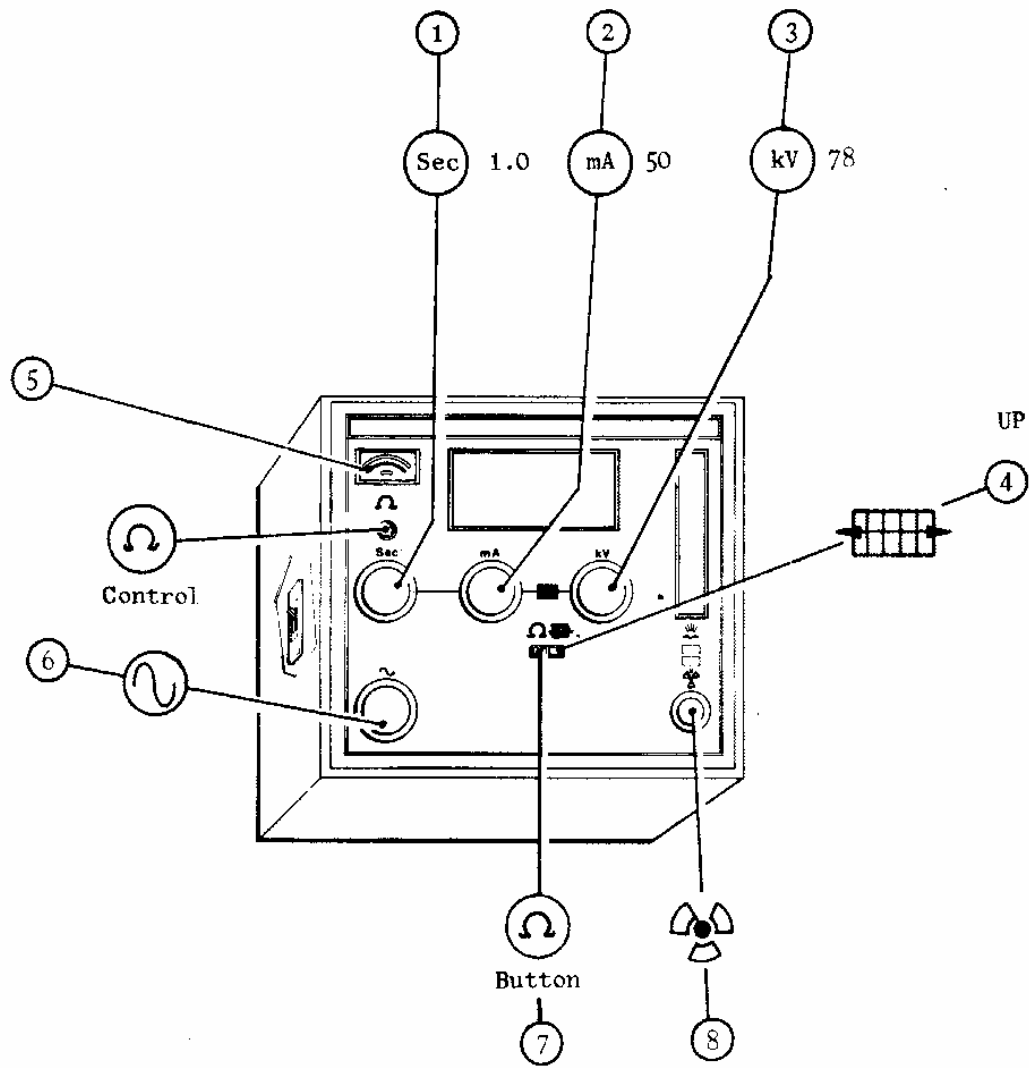

Fig 35 Setting Mains Padder Resistor R1
25. SETTING MAINS PADDER RESISTOR R1. Fig 35.